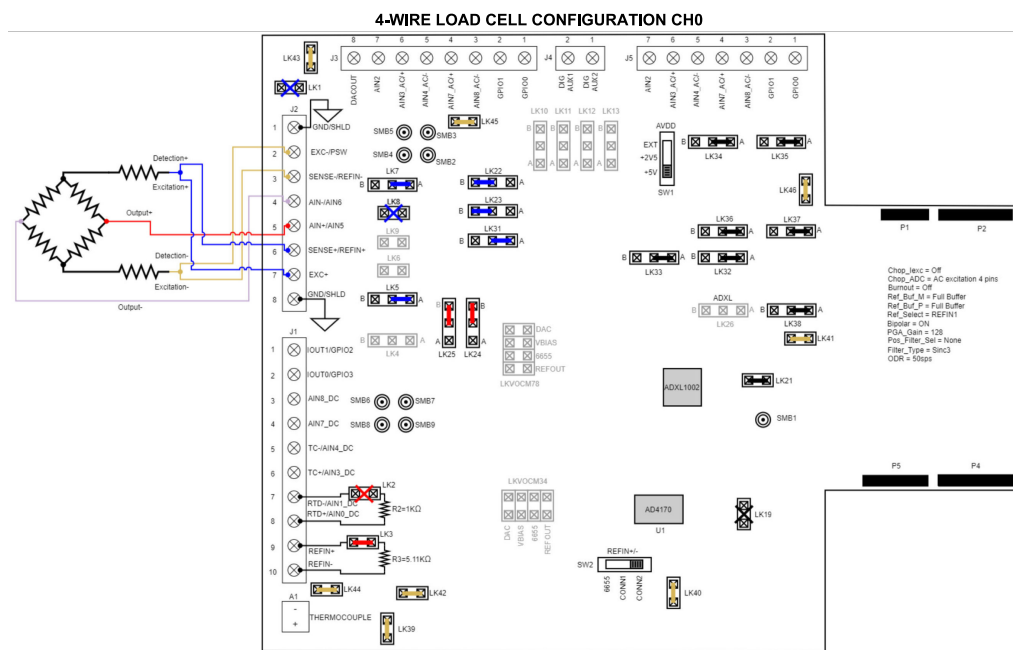

Figure 9. Link Settings and Sensor Connections
1. Set all links on the EVAL-AD4170-4ARDZ and connect the sensor as shown in Figure 9.